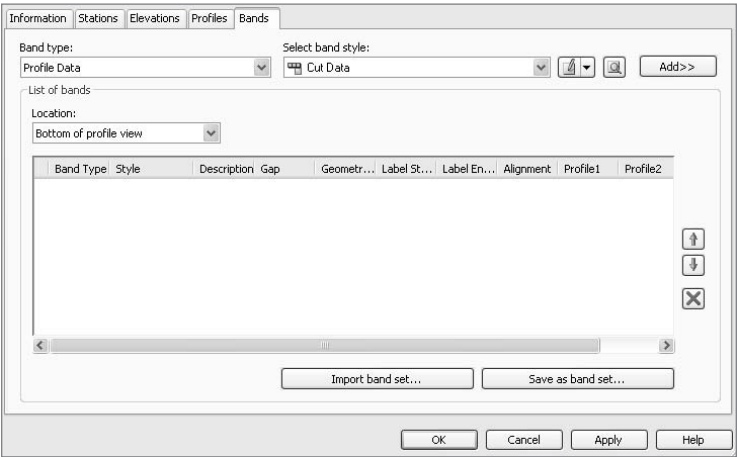

Figure 9.29
4. Change the Band Type drop-down list to Elevations and Stations, and then click the Add button to display the Geometry Points to Label in Band dialog shown in Figure 9.29. In this case, the dialog selection is somewhat irrelevant because the band is set up to label at major stations only.